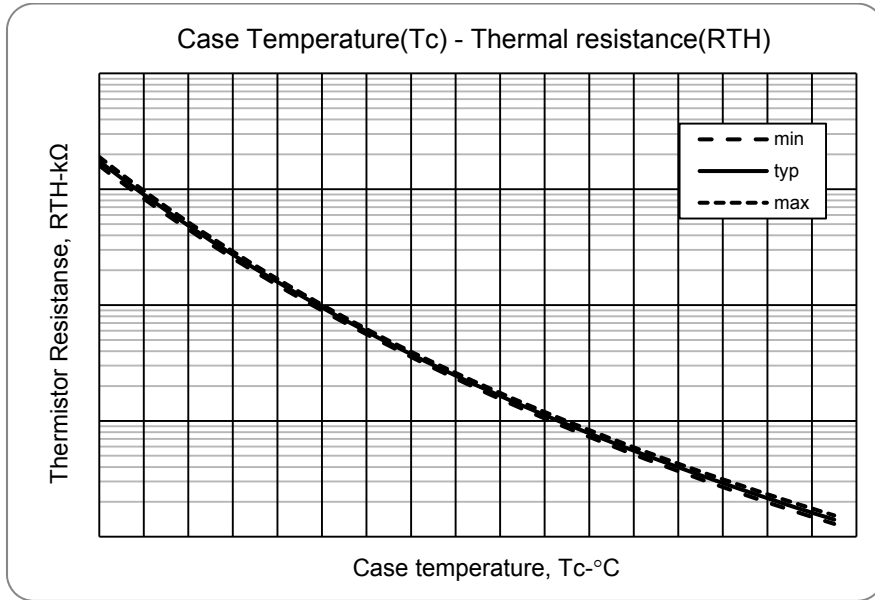
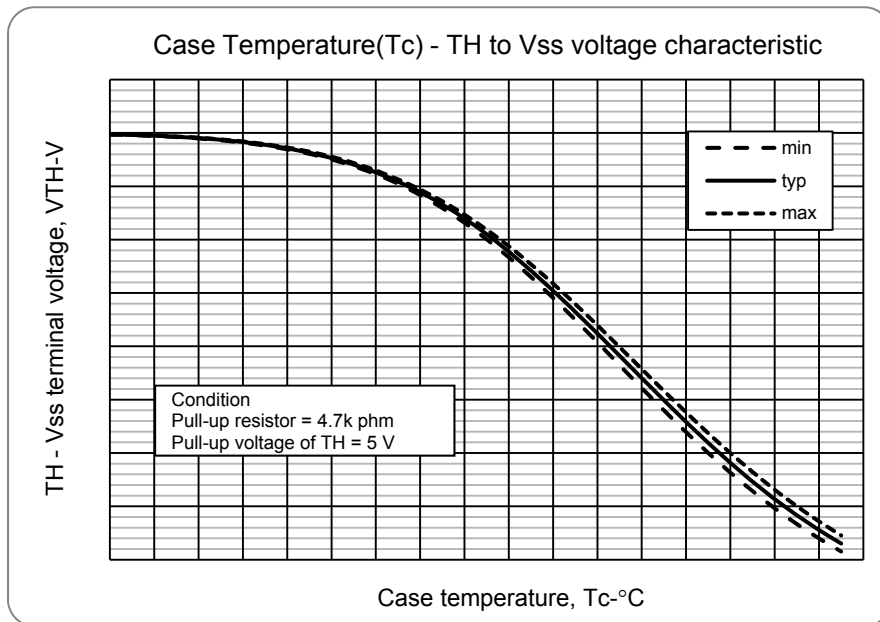

Fig. 10 Variation of thermistor resistance with temperature
Fig. 11 Variation of temperature sense voltage with thermistor temperature
- Inside the IPM, a thermistor used as the temperature monitor for internal substrate is connected between VSS terminal and TH terminal, therefore, an external pull up resistor connected between the TH terminal and an external power supply should be used. The temperature monitor example application is as follows, please refer the Fig.10, and Fig.11 below.